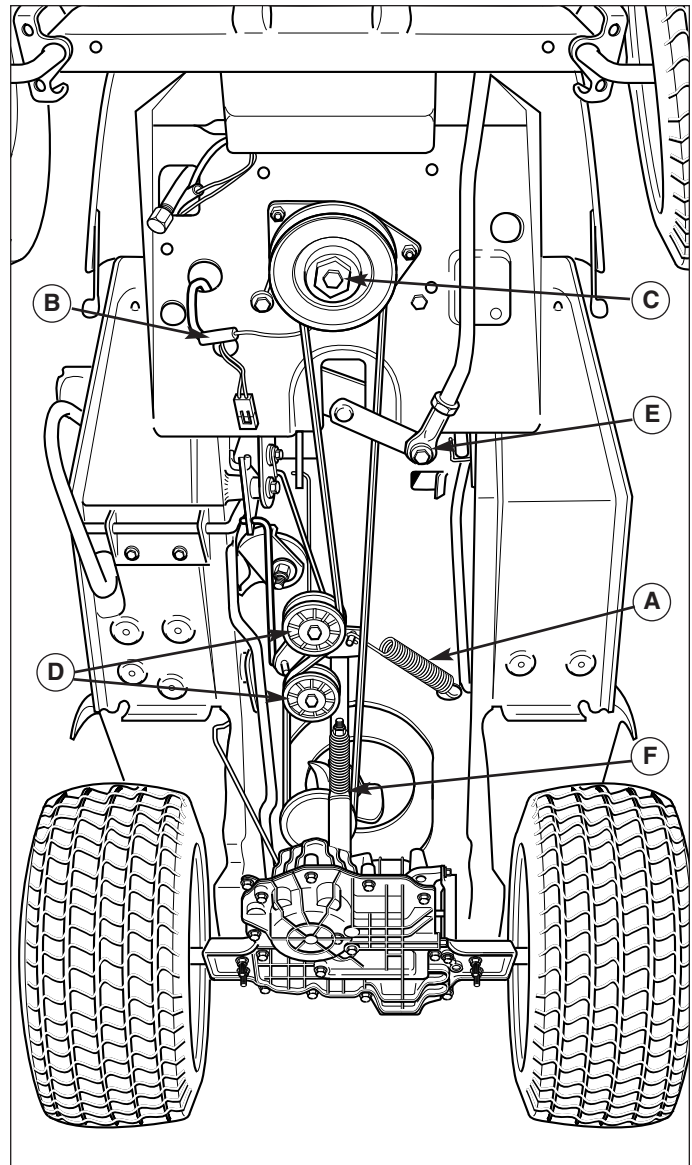

Figure 41. Transmission Drive Belt Replacement
See Figure 41.
14. See Figure 41. Install the belt onto the idler pulleys (D) and tighten the idler pulley hardware.
16. See Figure 41. Reconnect the steering arm (E).
17. Reinstall the PTO clutch. Torque the crankshaft bolt (C) to 45-50 ft. lbs.
18. Reconnect the PTO clutch plug (C, Figure 41).
19. Reattach the idler assembly spring (A, Figure 41).